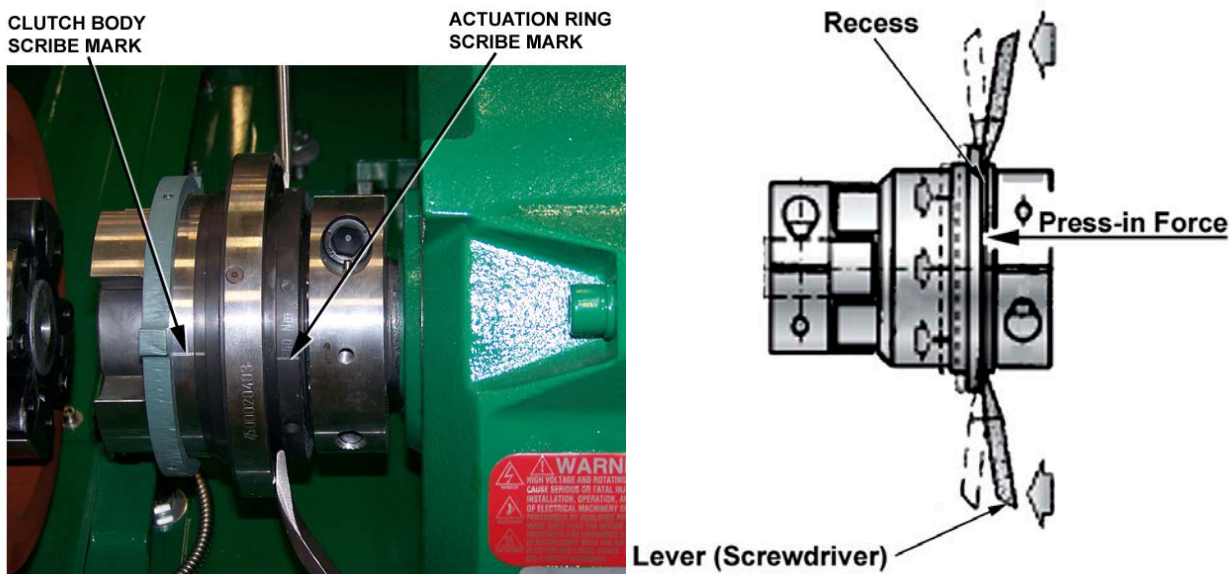

Figure 4-21. Resetting Clutch Following Trip
3. Align the scribe marks on the actuation ring and clutch body (Figure 4-21).